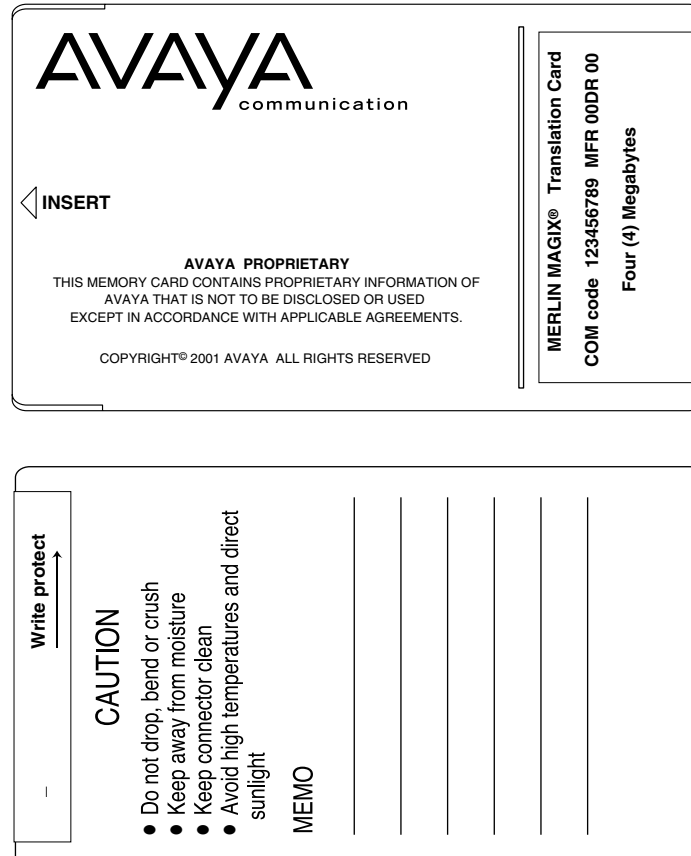

Figure B-1. PCMCIA Translation Memory Card
- **Translation Memory Card.** This card is used for MERLIN MAGIX Integrated System Backup and Restore procedures performed through the Backup/Restore option on the System Menu. An automatic backup feature permits you to set the system to perform automatic backups to the memory card on a daily or weekly basis. This card is identified by a white label with black lettering, as shown in Figure B-1.